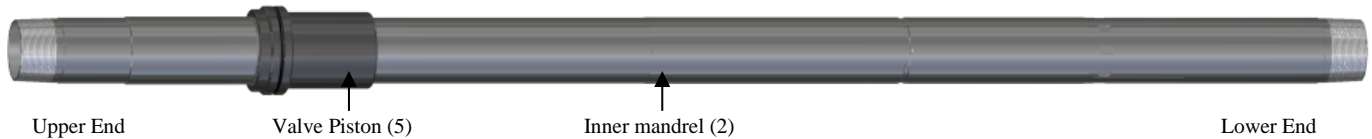

Fig. 1
L-2) From lower end of inner mandrel (2), slide valve piston (5) onto inner mandrel (2). Screw valve piston (5) onto inner mandrel (2) (Fig. 1).
L-4) Install o-rings (42, 44) into grooves on balance piston (4) (Fig. 1).